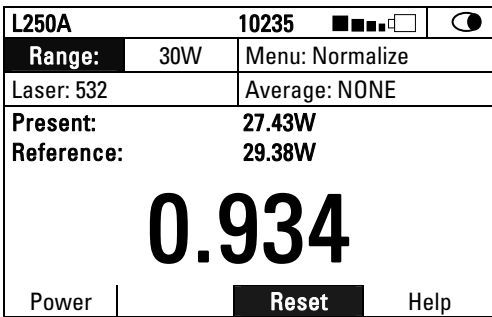

Figure 4.3
2. When ready to normalize, press “apply”. From then on, the power will be proportional to the normalized power value (See Figure 4.3).